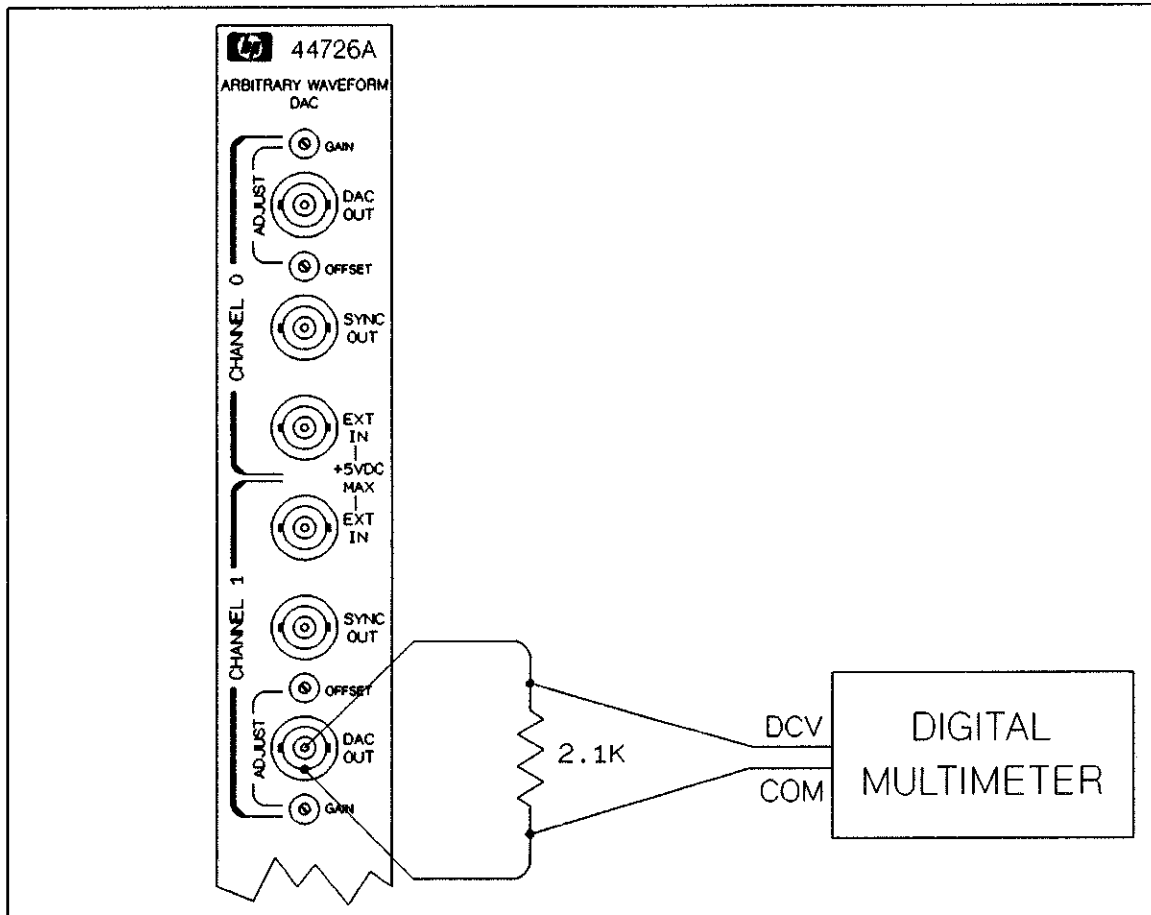

Figure 21-13 Channel 1 Full Load DC Volts Test Connection
- c. Refer to Figure 21-13. Connect the digital multimeter to the accessory's DAC OUT connector on channel 1.
3. Connect a 2.1 kohm resistor across the channel 1 DAC OUT connector, as shown in Figure 21-13.